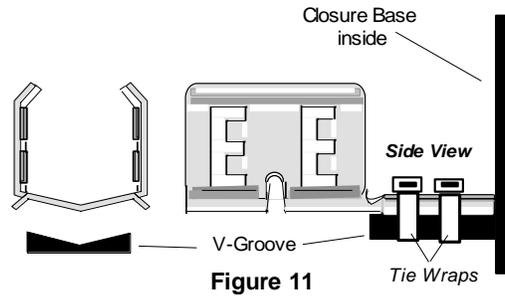

Figure 11
14.03 Remove the retention bracket from the kit and install it in the v-groove adjacent to the entry port. Tightly secure the bracket with tie wraps. See **Figure 11**.